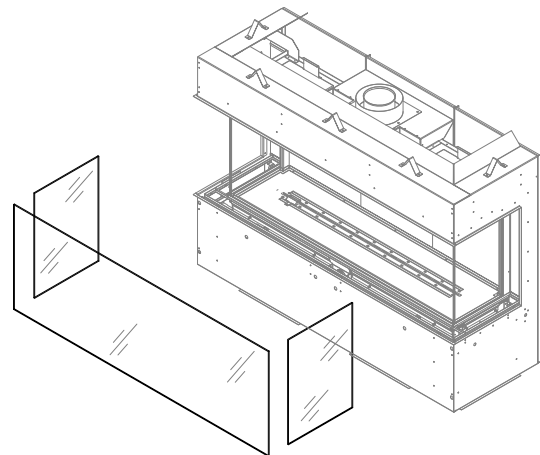

Figure 4.14 - Remove Safety Glass Barrier
2. Remove the safety glass barrier, exterior media tray, firebox glass, and crushed media. You may find it beneficial to remove the lower glass brackets for increased accessibility. Figure 4.14, 4.15, and 4.16.